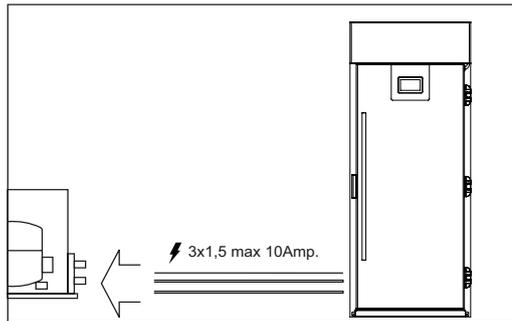

Fig.7
13.2 Retarder proofer Bakery Roll-In REM (Fig. 7)